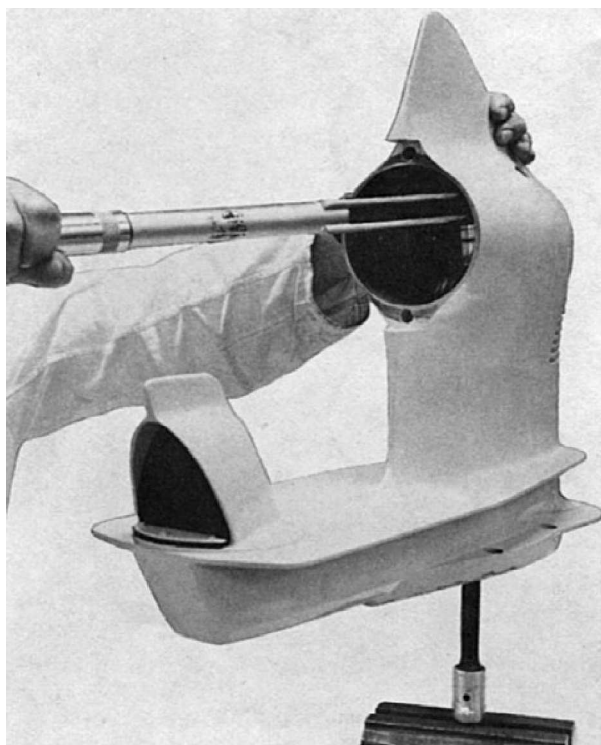

Fig. 40.
2. Fit the spacer ring (14), the lock washer (15) and the nut (16) on the vertical drive shaft. Tighten the nut and lock with the lock washer (15).
3. Tighten the nut (17) holding the drive in position to a torque of 16 kpm (115 lb.ft.) and then lock the nut with the lock washer (18). Use tool 884264 on the end of the splines as a counterhold. See Fig. 40.
4. Place both the O-rings (29) on the propeller shaft bearing housing. Coat VP 1141570-0 or Permatex 679 on the contact surfaces and screws. Fit the bearing housing with shaft in the lower gear housing and tighten both the internal hex screws to a torque of 4 kpm (29 lb.ft.).